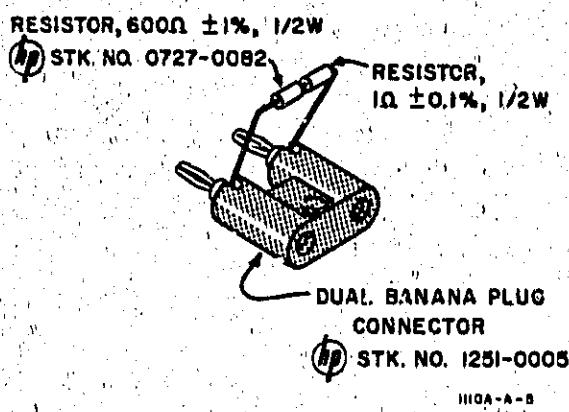

Figure 3. 600 Ohm Load.
d. Connect the AC Voltmeter across the 1 ohm resistor on the 600 Ohm Load (ref. Figure 3).